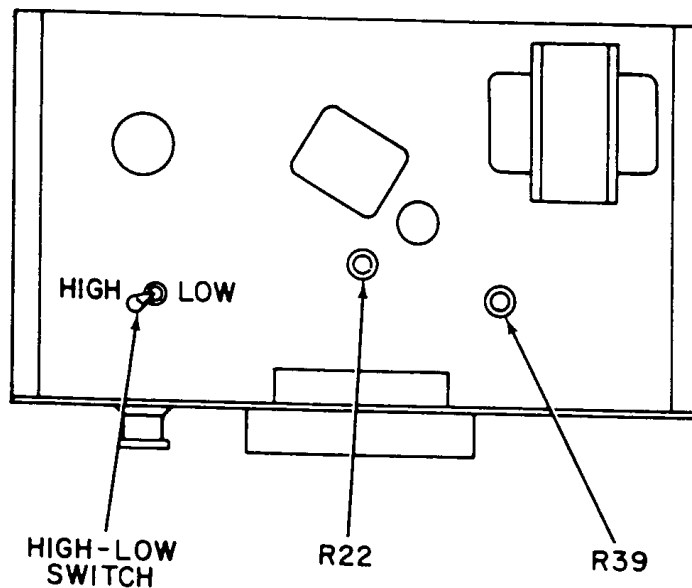

Figure 1. Model-adjustment-top view.
(1) Connect test oscillator (A9) 50-ohm output to TI INPUT, using cable (B3) with termination (B8) connected to test oscillator.
(2) Adjust test oscillator frequency for 1000 Hz and output for an on-scale indication.
(3) Adjust test oscillator frequency for peak indication on TI meter, reducing amplitude as required.
(4) Adjust test oscillator amplitude for a 0-dB indication on TI meter 0 to 10 dB scale. Test oscillator output meter will indicate 0.3 V or less.
(5) Vary output of autotransformer (A3) from 105 to 125 V while maintaining 0 dB indication on TI meter. Test oscillator output meter will indicate 0.3 V or less.
(6) Adjust autotransformer for a 115-V ac output.
(7) Adjust test oscillator amplitude for 0.04 V and record TI meter indication.
(8) Remove equipment-setup and connect termination (B7) to TI INPUT.
(9) Set SWR-DB switch to 60. If TI meter does not indicate less than (down-scale) indication recorded in (7) above, perform **b** below.
b. Adjustments. Adjust R39 (fig. 1) for minimum down-scale indication on TI (R).
- (1) Set SWR-DB switch to 0 (zero).
- (2) Adjust resistance standard (A7) to 200 ohms and connect to TI INPUT, using cable (B4).
- (3) Connect dc voltmeter (A4) to resistance standard, using cable (B5).
- (4) Set input selector switch to BOLOMETER and HIGH-LOW SWITCH (fig. 1) to LOW. Dc voltmeter will indicate between 0.80 and 0.92 V dc.
- (5) Set HIGH-LOW SWITCH to HIGH. Dc voltmeter will indicate between 1.64 and 1.86 V dc.
(1) Adjust test oscillator for peak indication on TI meter.
(2) Adjust R22 (fig. 1) fully clockwise and adjust GAIN control with test oscillator amplitude for a 0-dB indication on TI meter 0 to 10 DB scale.
(3) Adjust R22 until TI meter indicates 4 dB on 0 to 10 DB scale (R).